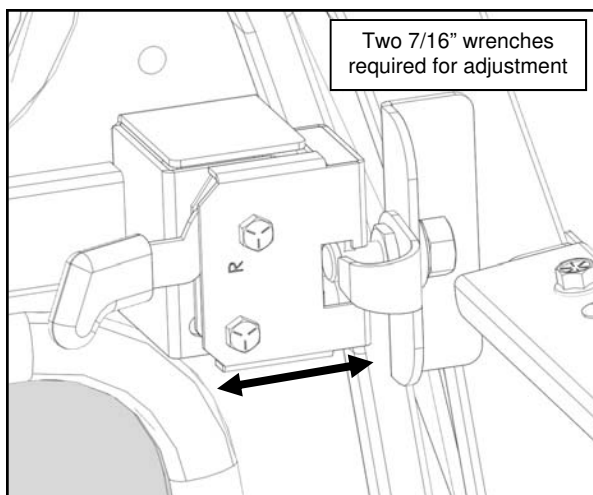

Fig. 11.3b (Door Latch Adjustment)
- Adjust the latch located inside the door horizontally - See Fig. 11.3b